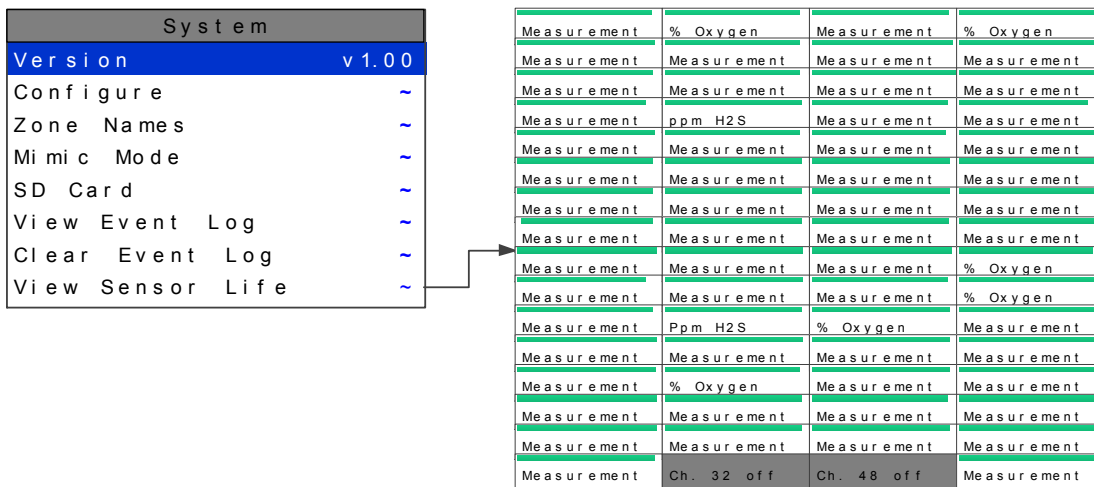

Figure 2-37
**Sensor Life** is available when at least one channel has **Sensor Life** activated in the **Marker menu** (see section 2.4.4.5). The **Sensor Info** screen displays each channel's sensor status as illustrated in Figure 2-37. Channels with **Sensor Life** disabled are indicated by **Ch. # Disabled** below the bar. **Cal Required** indicates no Calibration Marker value has been received by the ViewSmart 6400.